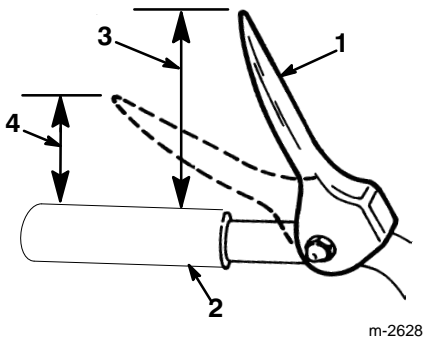

Figure 11
5. Check the distance between the top of the handgrip and the bottom of the auger/impeller control lever (Fig. 11). The distance should be approximately four inches (10.2 cm).